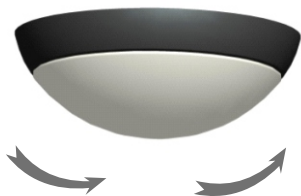

Fig 1.1
1.1 Take the light set out of the box and turn the lampshade counterclockwise to disassemble it as shown in Fig 1.1, and then remove the LED light kit out of the light kit pan directly as the light kit is fixed by magnetic attraction.